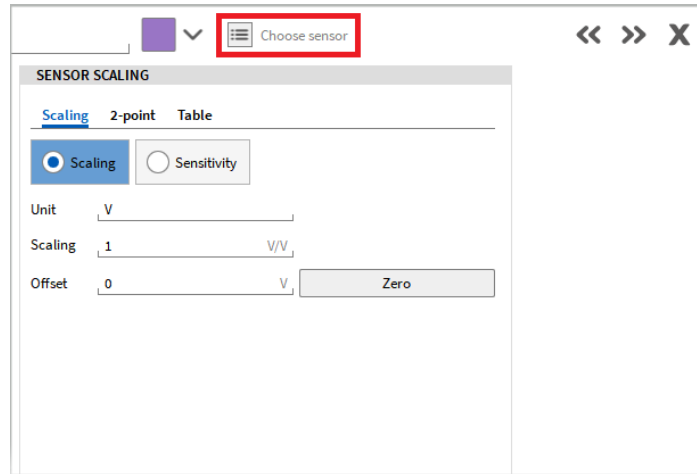

Figure 4-41: Applying a sensor to a channel in the channel settings
- Click on the *Choose sensor* button in the upper right corner, seen in Figure 4-41.